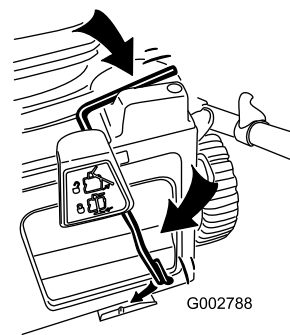

Figure 9
2. Swing the lever into the switch channel and lever retainer (Figure 9).